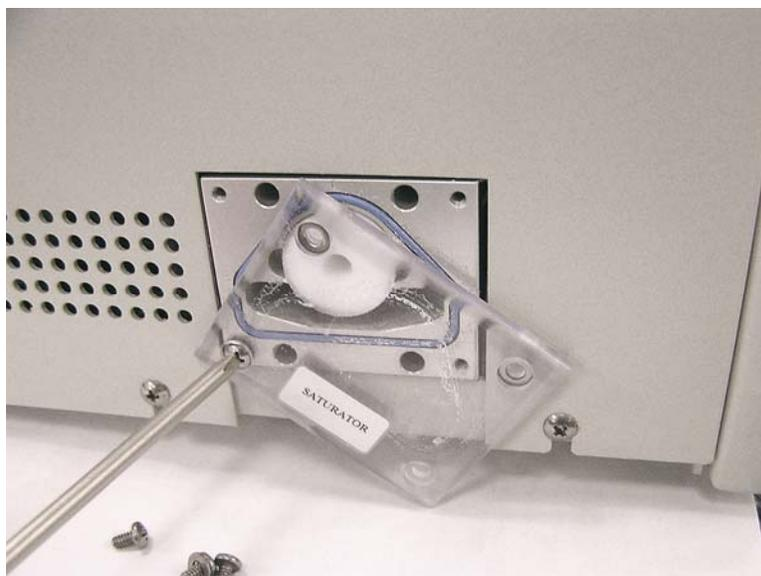

Figure 8-7
5. Once drained, remove the clear plastic reservoir cover plate by removing the four retaining screws as shown in Figure 8-7. Make sure the blue O-ring gasket seal is retained if it becomes unseated. Put paper towels on the table under the reservoir to absorb any butanol that spills out.